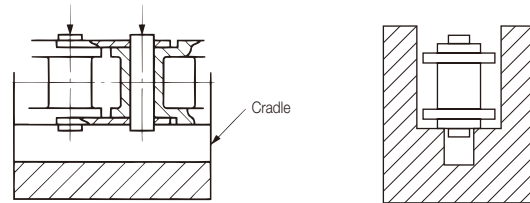
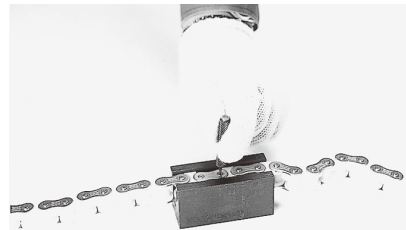

Fig. 15 Cross Section Showing Poly Steel Chain Set in Cradle
Fig. 16 Disconnecting Poly Steel Chain
- 1) Place the outer plate of the chain in a cradle, position a special punch on the head of the pin (see photo in Fig.16 below), and lightly strike with a hammer (Fig.15).